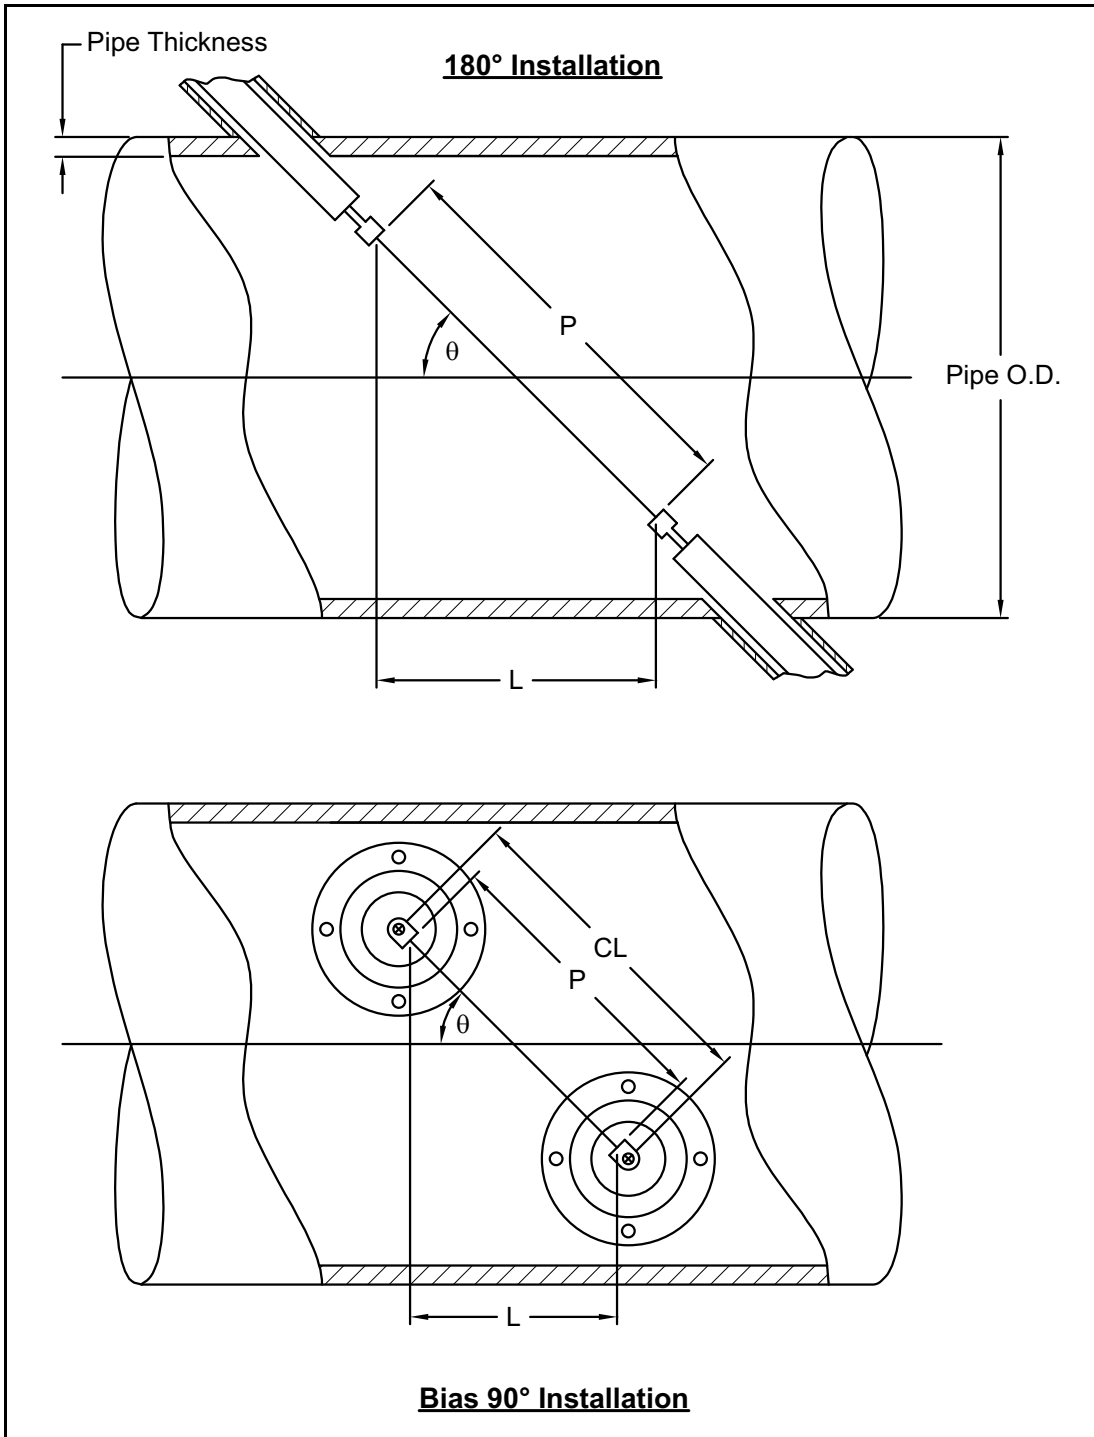

Figure 18: Top View of Transducer Installations
The accuracy of the programmed P and L values is critical to precise flow rate measurements. If Panametrics supplies the flowcell for the system, the correct values will be included in the documentation supplied with the unit. For transducers installed on an existing pipe (see Figure 18 on page 56), P and L must be measured at the site. This appendix provides instructions for properly determining these dimensions.
Whenever possible, physically measure the face-to-face distance (P) and the axial distance (L) between the centers of the flat faces of the transducers. Refer to Figure 18 on page 56 for an illustration of the proper distances to measure in a typical installation.
With a Bias 90° transducer installation, it sometimes happens that the only known parameters are the transducer angle (θ) and the centerline distance between the transducer bodies (CL). In these cases, it is still possible to calculate both P and L by combining Equation D-1 above with Equation D-2 below (see *Figure 18 on page 56*):